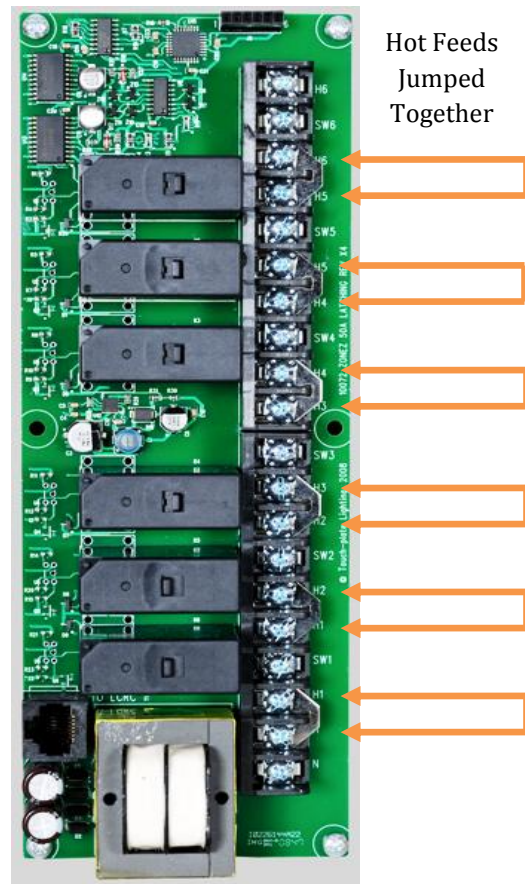

Figure 6.2
Figure 6.2 shows a 10072 Relay Board. The 10072 Relay Board has mechanically latching relays that are rated at 50AMPS. There are 6 relays and a transformer per board. The transformer performs the same functions as the TVR-1 / TPS-0120, which supplies power to the relay and the low voltage circuitry. The 10072 Relay Board uses 20-AMP electrically held relays. The Relay Board will come from the factory with 'jumpers'. 'Jumpers' allow all six (6) relays to share one (1) hot feed. If more than one (1) hot feed is desired or needed, the jumper(s) can be removed so the new hot feed can be wired.